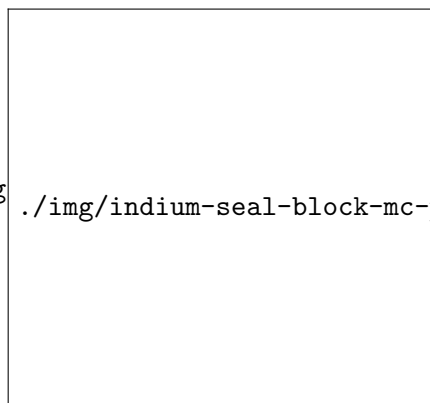

Figure 5.16: Pressing the MC onto the prepared indium ring.
6. Flip the mating can (IVC or MC bell housing) upside down and press firmly to the aluminum block (Figure 5.16).